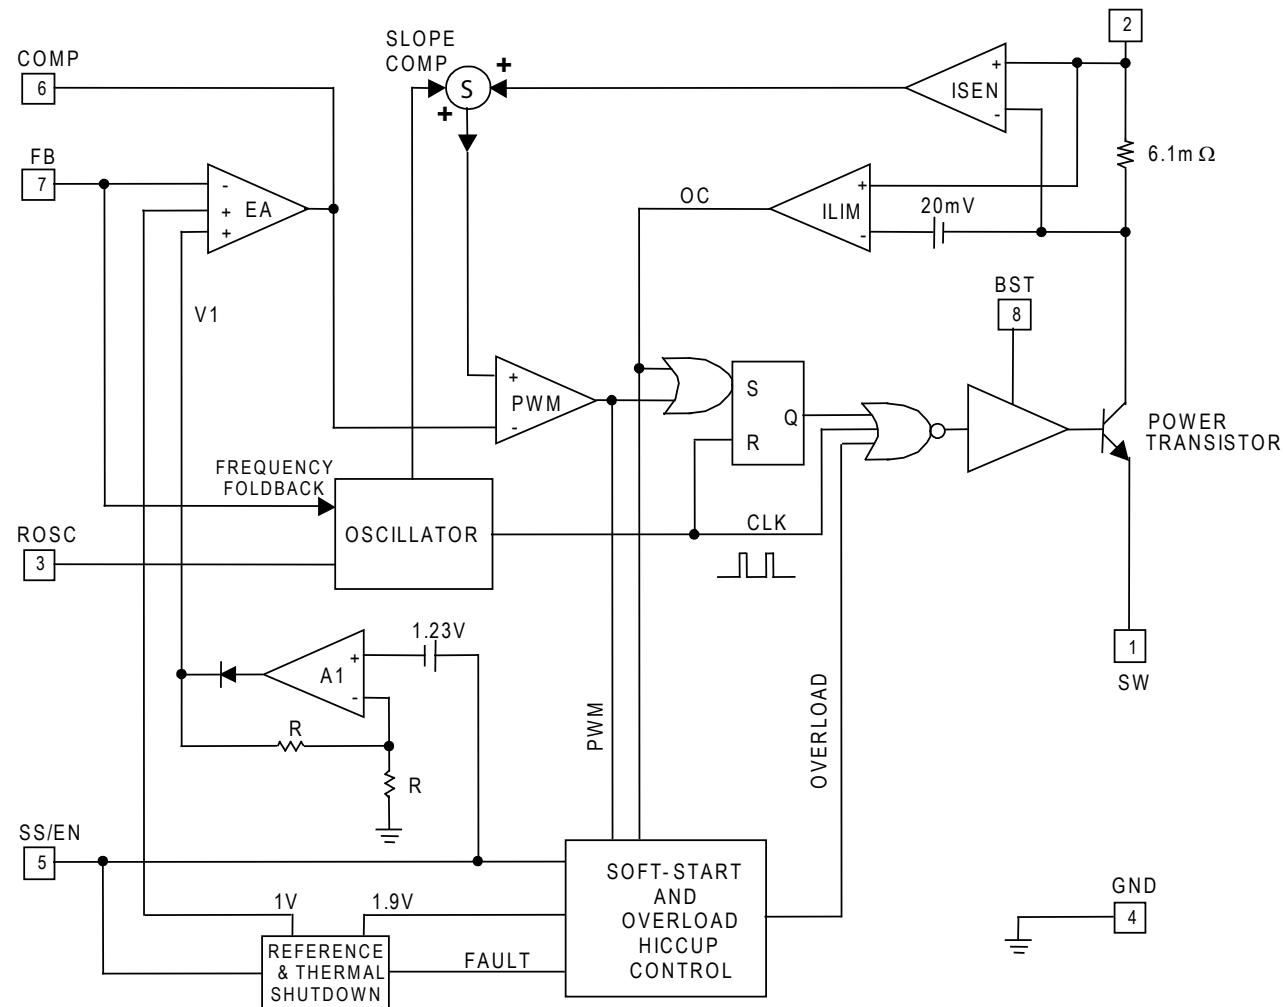

Figure 2. SC4524D Block Diagram
As shown in Figure 2, the switch collector current is sensed with an integrated $5.5\text{m}\Omega$ sense resistor. The sensed current is summed with a slope-compensating ramp before it is compared with the transconductance error amplifier (EA) output. The PWM comparator trip point determines the switch turn-on pulse width. The current-limit comparator ILIM turns off the power switch when the sensed signal exceeds the 18mV current-limit threshold.
The error amplifier EA in Figure 2 has two non-inverting inputs. The non-inverting input with the lower voltage predominates. One of the non-inverting inputs is biased to a precision 1V reference and the other non-inverting input is tied to the output of the amplifier A_1 . Amplifier A_1 produces an output $V_1 = 2(V_{SS/EN} - 1.2\text{V})$. V_1 is zero and COMP is forced low when $V_{SS/EN}$ is below 1.2V. During start up, the effective non-inverting input of EA stays at zero until the soft-start capacitor is charged above 1.2V. Once $V_{SS/EN}$ exceeds 1.2V, COMP is released. The regulator starts to switch when V_{COMP} rises above 0.4V. If the soft-start interval is made sufficiently long, then the FB voltage (hence the output voltage) will track V_1 during start up. $V_{SS/EN}$ must be at least 1.83V for the output to achieve regulation. Proper soft-start prevents output overshoot. Current drawn from the input supply is also well controlled.
becomes armed. As the load draws more current from the regulator, the current-limit comparator ILIM (Figure 2) will eventually limit the switch current on a cycle-by-cycle basis. The over-current signal OC goes high, setting the latch B_3 . The soft-start capacitor is discharged with $(I_D - I_C)$ (Figure 3). If the inductor current falls below the current limit and the PWM comparator instead turns off the switch, then latch B_3 will be reset and I_C will recharge the soft-start capacitor. If over-current condition persists or OC becomes asserted more often than PWM over a period of time, then the soft-start capacitor will be discharged below 1.9V. At this juncture, comparator B_4 sets the overload latch B_2 . The soft-start capacitor will be continuously discharged with $(I_D - I_C)$. The COMP pin is immediately pulled to ground. The switching regulator is shut off until the soft-start capacitor is discharged below 1.0V. At this moment, the overload latch is reset. The soft-start capacitor is recharged and the converter again undergoes soft-start. The regulator will go through soft-start, overload shutdown and restart until it is no longer overloaded.
The PWM latch in Figure 2 is reset every cycle by the clock. The clock also turns off the power transistor to refresh the bootstrap capacitor. This minimum off time limits the attainable duty cycle of the regulator at a given switching frequency. The measured minimum off time is 100ns typically. If the required duty cycle is higher than the attainable maximum, then the output voltage will not be able to reach its set value in continuous-conduction mode.